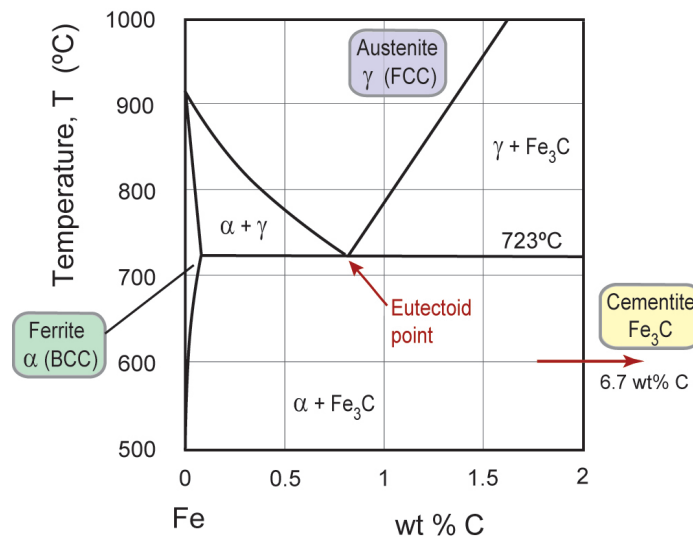

Figure 15: The Fe-C phase diagram for compositions of carbon steels below 1000°C, including the eutectoid point.
24. *Hyper-eutectoid* steels contain > 0.8wt% C. A high carbon steel containing 1.0wt% C is cooled slowly from 1000°C in the austenite field. Refer to the Fe-C phase diagram in Figure 15 to answer the following: